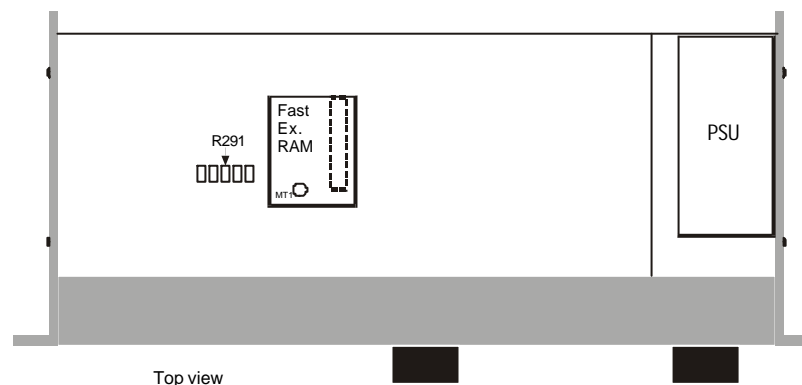

Fig. 5: Location of R291 and Fast EX. RAM board.
14. Mount the new Fast EX. RAM board at J13. See fig. 5.
15. Fasten the board to the metal spacer by use of 1 screw and 1 star washer. See fig 5.
16. Mount a 0 ohm resistor (151000011) at R291, see fig 5.